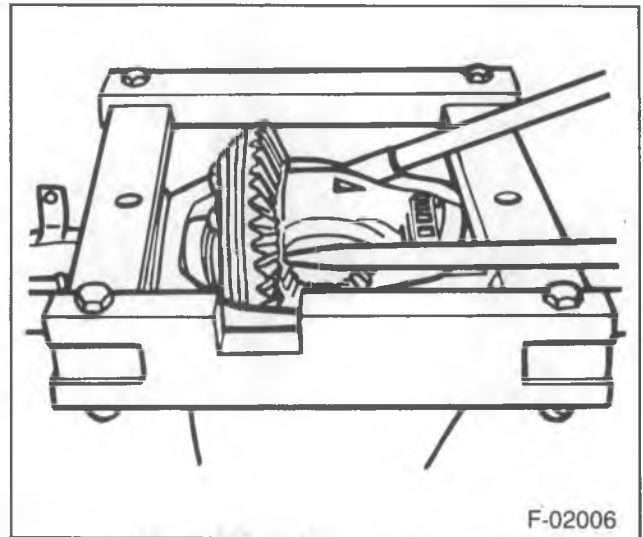
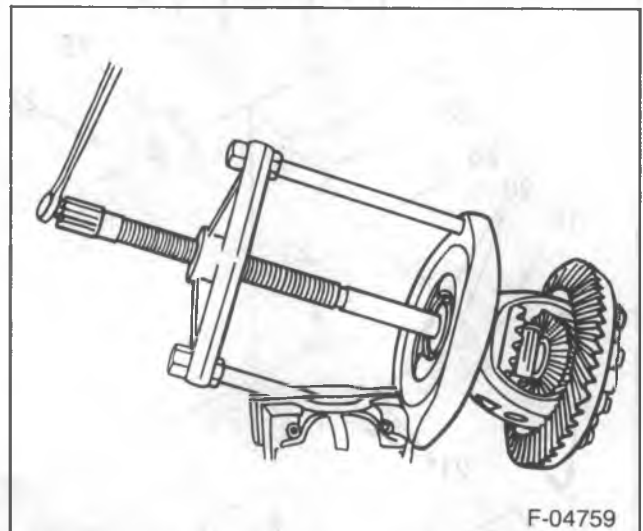

Figure 5—Removing the Differential
Figure 6—Removing the Differential Side Bearings
5. Differential case (22) from the carrier (1) using two pry bars (figure 5).
6. The spreader J 24385-01 from the carrier (1).
7. Bearing cups (20).
8. Differential side bearings (20) using J 29721, and J 29721-70 and J 8107-3 (figure 6).
9. Differential shims (21).
10. Ring gear bolts (23), and discard.